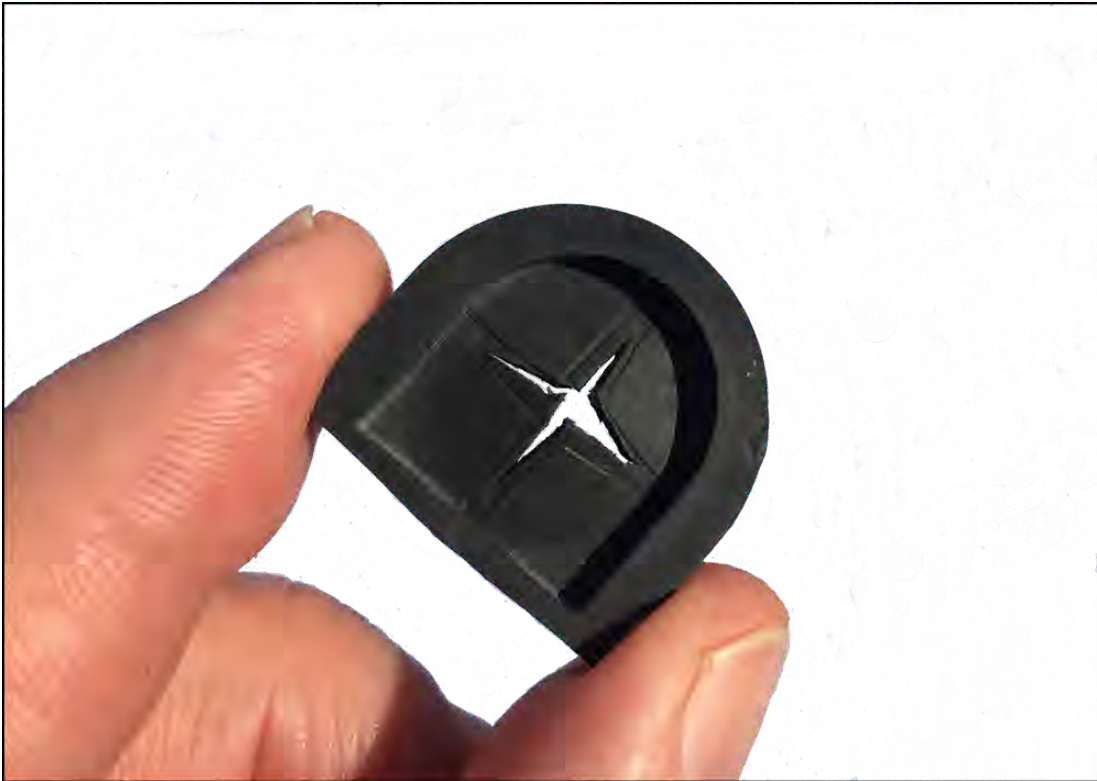

Figure 14: Rubber gasket
5. With a sharp tool such as an X-Acto knife, create a small “X” pattern in the gasket (see Figure 14).